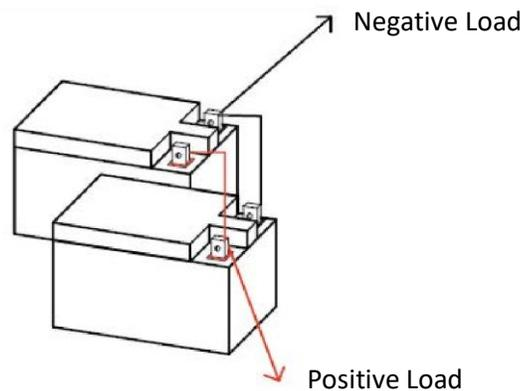

Figure 3: Two 5024 Batteries connected in Parallel to create a 24V 100Ah Battery Bank
Multiple DF5024 batteries may be connected in parallel to increase the capacity and current of the system. When batteries are connected in parallel, the voltage of the system does not change, but the capacity and current limits are additive. For example, two DF5024 batteries connected in parallel (shown in Fig. 3) create a 24V 100Ah bank that can deliver 120A continuously and 200A for 30 seconds.
7. Repeat steps 3-6 for additional batteries in the system. An example of a finished connection can be found below in Fig. 3.